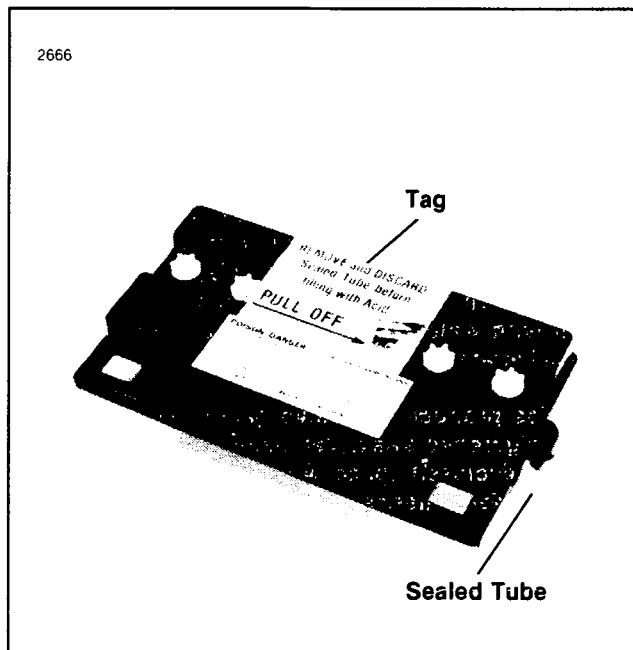

Figure 2. Reminder Tag and Sealed Tube
2. See Figure 2. Remove reminder tag. Pull off short sealed tube on vent elbow. Check that vent elbow is dry and clean, and install long vent tube provided.